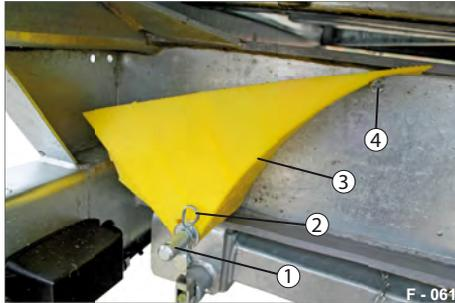

Fig. 86 Wheel chock, parked
- ▶ Remove the spring pin (Fig. 86/2). Remove the washer.
- ▶ Remove the wheel chock (Fig. 86/2).